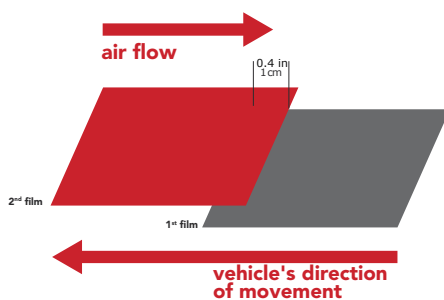

Figure 28
- Vertical overlapping of the HX20000-HX30000 film on a mobile surface: assuming you always apply the film starting from the rear of the vehicle and moving to the front, then the overlapping will be done in the same way. (FIG. 28)